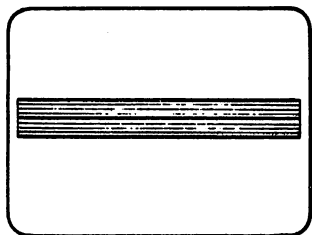
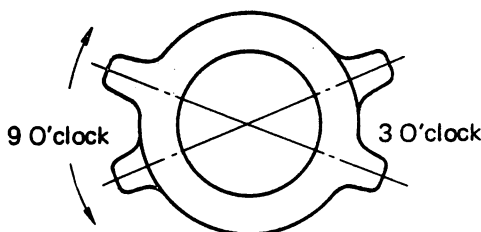

Figure 5-5
Figure 5-9
- 1) Do not turn the purity magnet if the horizontal band coincides with the horizontal line in the center of the screen as shown in Figure 5-5. In this
- 3) If the horizontal band coincides with the horizontal line in the center of the screen as shown in Figure 5-5, move the purity magnet knobs so that one set points to 3 o'clock and the other to 9 o'clock, keeping the angles equal (Figure 5-9),